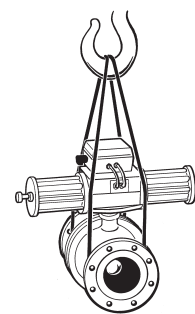

Fig. 1. Lifting of the valve
All lifting must be carried out on the valve itself and not on the actuator. The joint between the valve and the actuator is designed principally for carrying the operating torque and the deadweight of the actuator (see Fig. 1).
5. Release the flanged joint between the valve and the pipework. Then lift out the valve. Don't use the actuator for lifting. **Apply all lifting forces to the valve itself and not to the actuator** - Fig. 1.